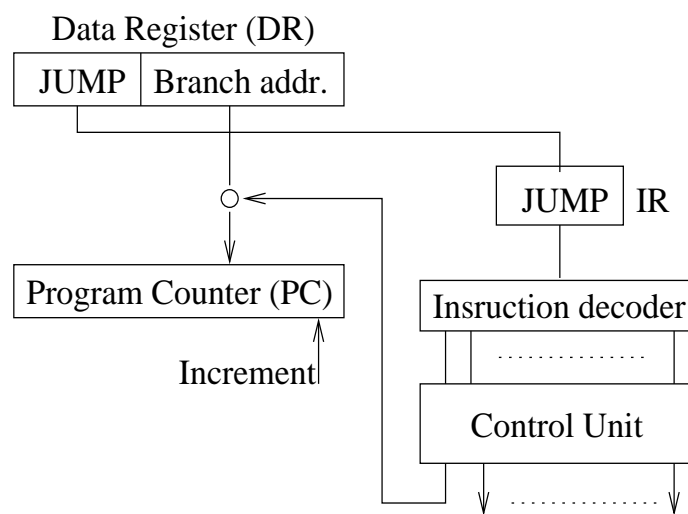

Figure 15: Branch control
**Unconditional branch** can be implemented by execution of register (DR) to register (PC) transfer micro-operation (Figure 15) -